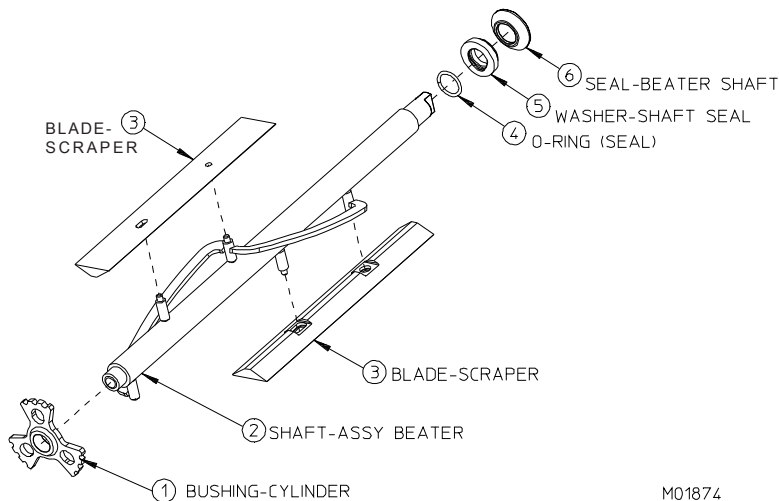

Figure 7-2 Beater Shaft Assembly
3. Install the shaft seal over the rear of the beater shaft, with the bell-shaped portion facing the rear, as shown in figure 7-2.